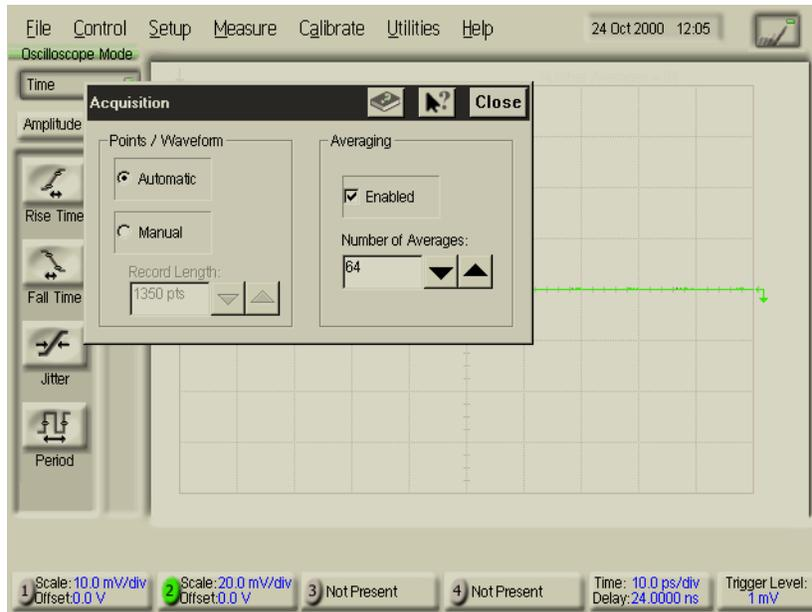

Figure 2-4. Setting Averaging for Measuring Time Interval Accuracy
- 10 On the DCA screen, press Setup, Acquisition, Enable Averaging, and set the number of averages to 64. See Figure 2-4. Close dialog box.